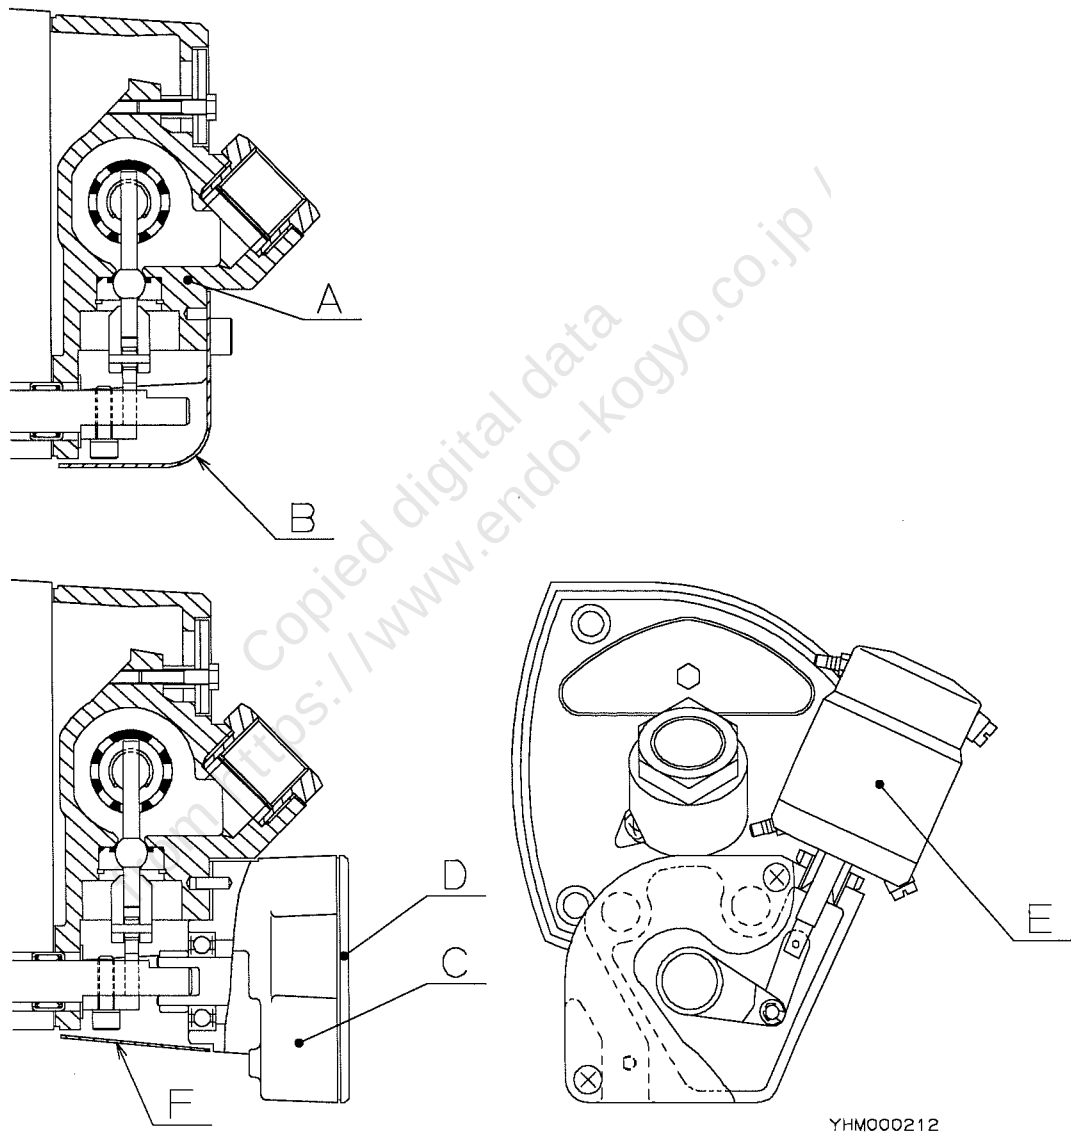

Fig. 7
- When using the trolley with the Endo hoist and controlling them with the four-buttons pendant switch (see Figure 7.):
- (1) Remove Cover (B) from Valve housing (A) of the hoist.
- (2) Remove Cover (D) from Cylinder holder (C).
- (3) Install Cylinder (E) and Cylinder holder (C) together with Cover (F) on Valve housing (A).
- (4) Connect the control tubes after installing the hoist.